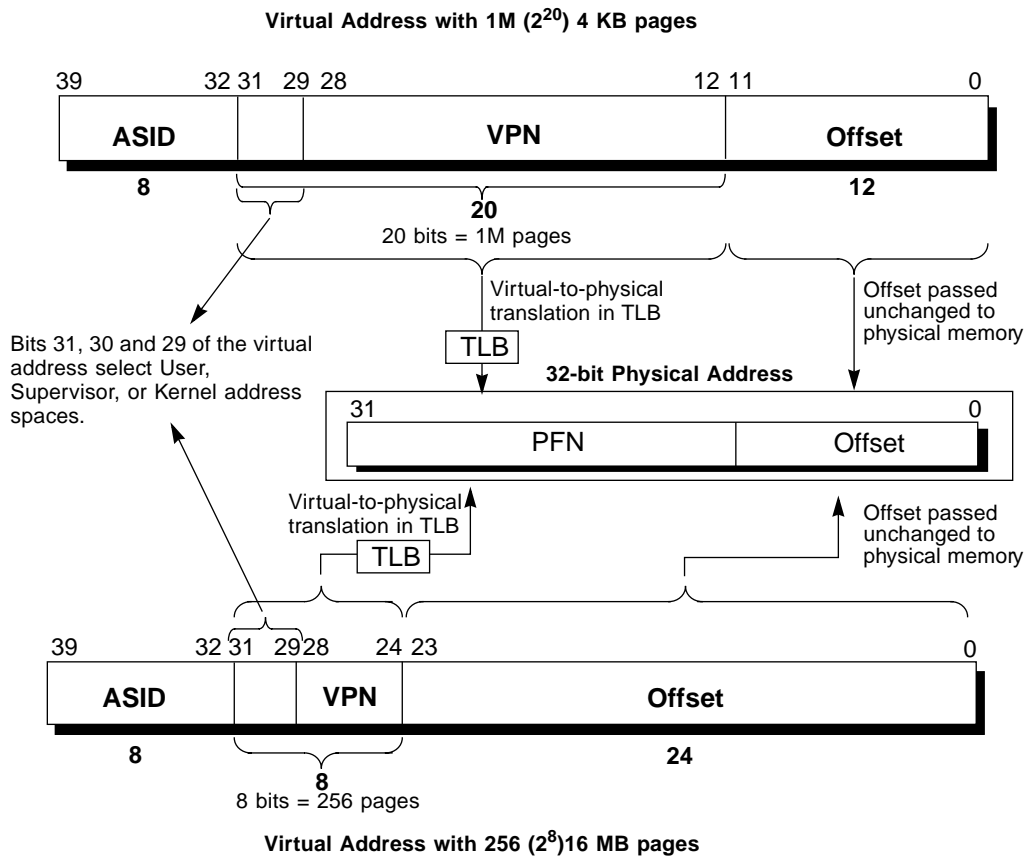

Figure 5-2 32-Bit Mode Virtual Address Translation
The virtual address is expanded by the address space ID (ASID) (refer to **Figures 5-2 and 5-3**). ASID decreases the number of times of TLB flash when the context is switched. The ASID area is 8 bits wide and is in the entry Hi register of CP0. The global bit (G) is in the entry Lo0 and entry Lo1 registers.
Figure 5-2 shows the virtual-to-physical-address translation of a 32-bit mode address. This figure illustrates the two of seven possible page sizes: a 4 KB page (12 bits) and a 16 MB page (24 bits).
- The top portion of Figure 5-2 shows a virtual address with a 12-bit, or 4 KB, page size, labelled *Offset*. The remaining 20 bits of the address excluding ASID represent the VPN, and index the 1M-entry page table.
- The bottom portion of Figure 5-2 shows a virtual address with a 24-bit, or 16 MB, page size, labelled *Offset*. The remaining 8 bits of the address excluding ASID represent the VPN, and index the 256-entry page table.
In the single-user mode, a virtual address space (useg) of 2 GB (2^{31} bytes) can be used in the 32-bit mode, and a 1 TB (2^{40} bytes) virtual address space (xuseg) can be used in the 64-bit mode. As shown in Figures 5-2 and 5-3, each virtual address is expanded to a separate virtual address by an 8-bit address space ID (ASID) for up to 256 user processes. The system allocates each process with an ASID to retain the contents of the TLB even when it has switched the context. useg and xuseg are referenced via TLB. Whether the cache can be used or not is determined for each page by the TLB entry (the C bit of the TLB entry determines whether the cache can be used).